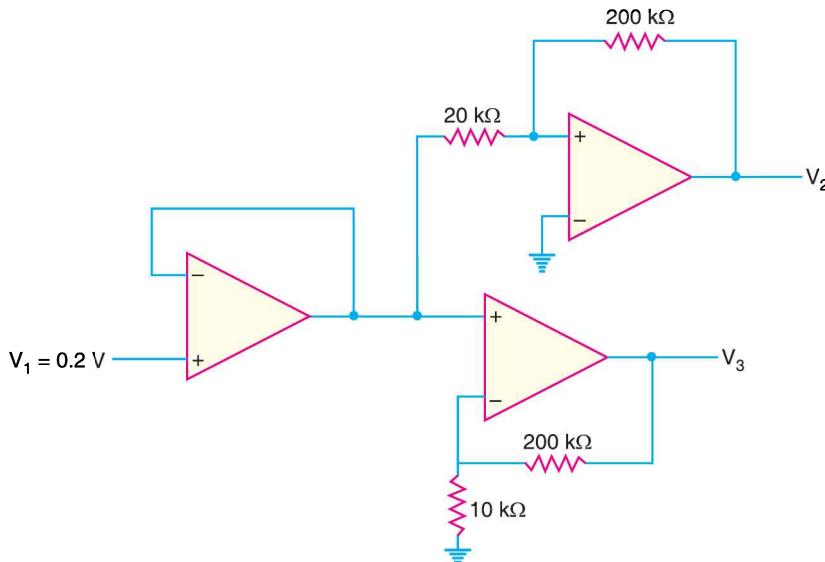

Fig. 25.108
15. Calculate the output voltages V_2 and V_3 in the circuit of Fig. 25.108. $[V_2 = -2 \text{ V}; V_3 = 4.2 \text{ V}]$